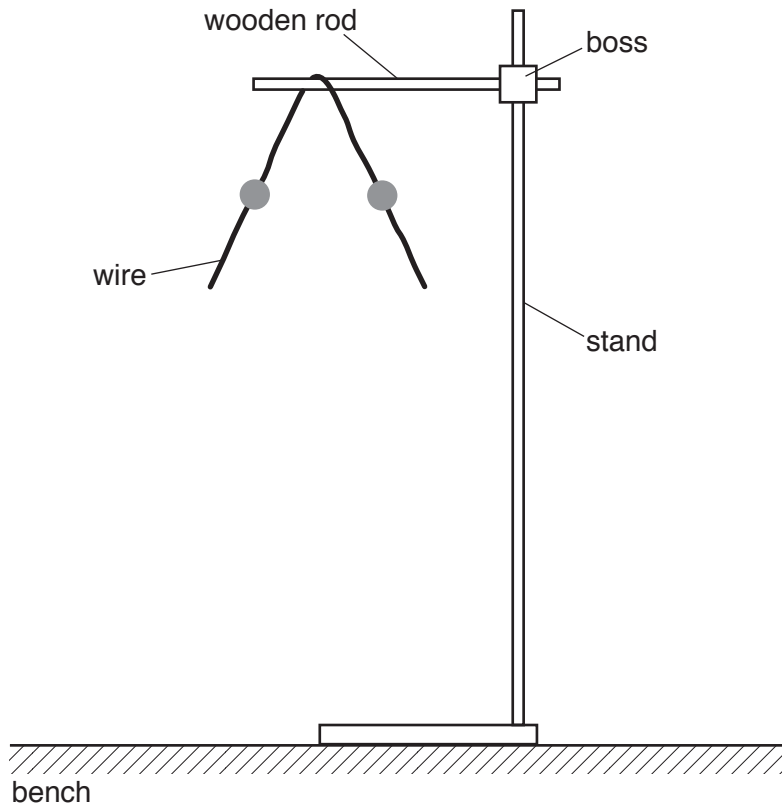

Fig. 1.3
- (b) (i) Set up the apparatus as shown in Fig. 1.3.